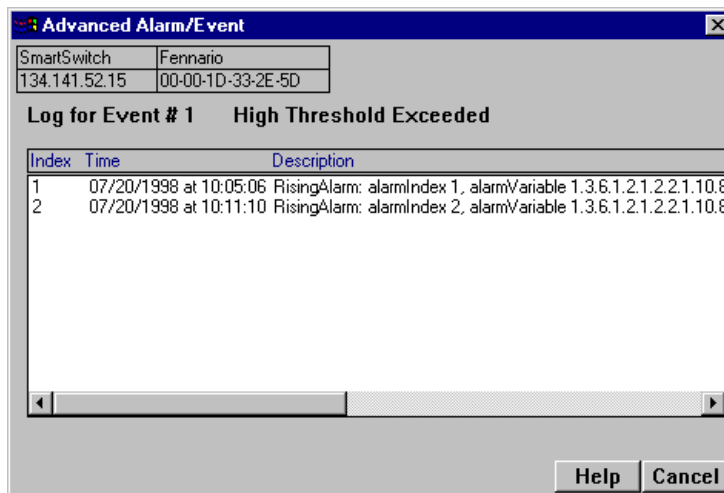

Figure 4-7. The Event Log Window
1. Highlight the event for which you wish to view the log, then click on **Event Log** at the bottom of the Advanced Alarm/Event List window; the Event Log window, Figure 4-7, will appear.